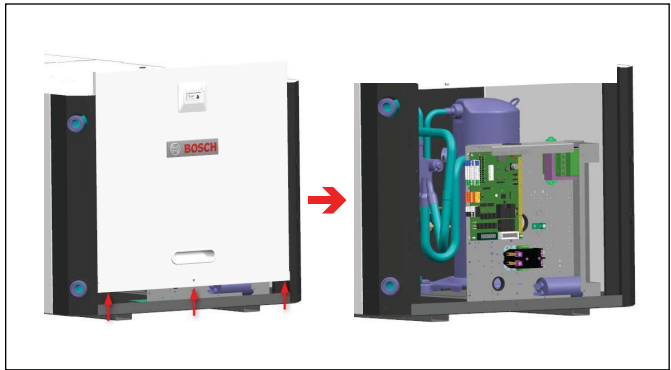

Figure 16
5. Slide front panel up and remove (figure 16).